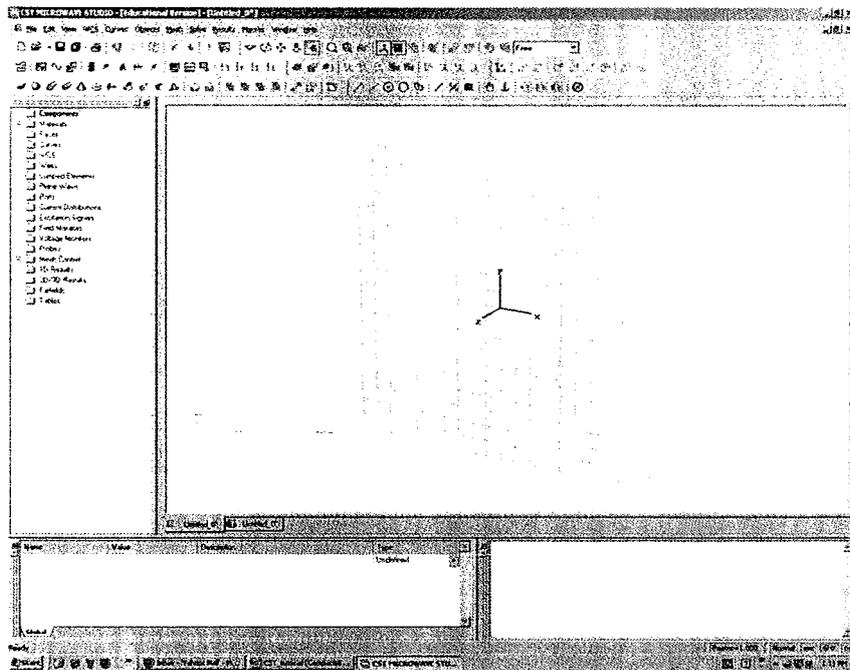

Fig. 3 Main Layout window
- e. After click on OK the main layout window will appear as shown in Fig. 3. Now we need to give a name to the project and save it.